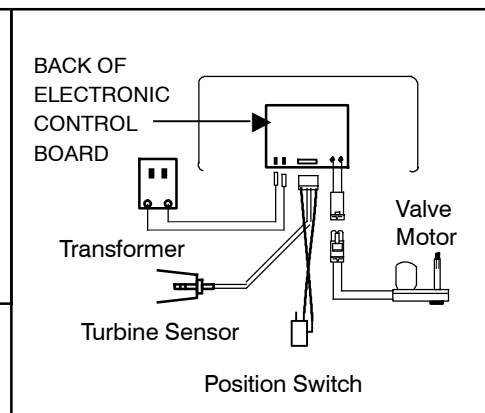

Figure 2
4. Disconnect wiring harness from position switch and turbine sensor. **Figure 2.**
5. Unplug the motor terminals from the back of the electronic control board. **Figure 2.**
12. Once all screws are secure and new motor and position switch are in place, attach new wire harness to position switch, turbine sensor and to connector from the electronic control board. Attach motor wire terminal to the correct connector coming from the electronic control board. **Figure 2.**